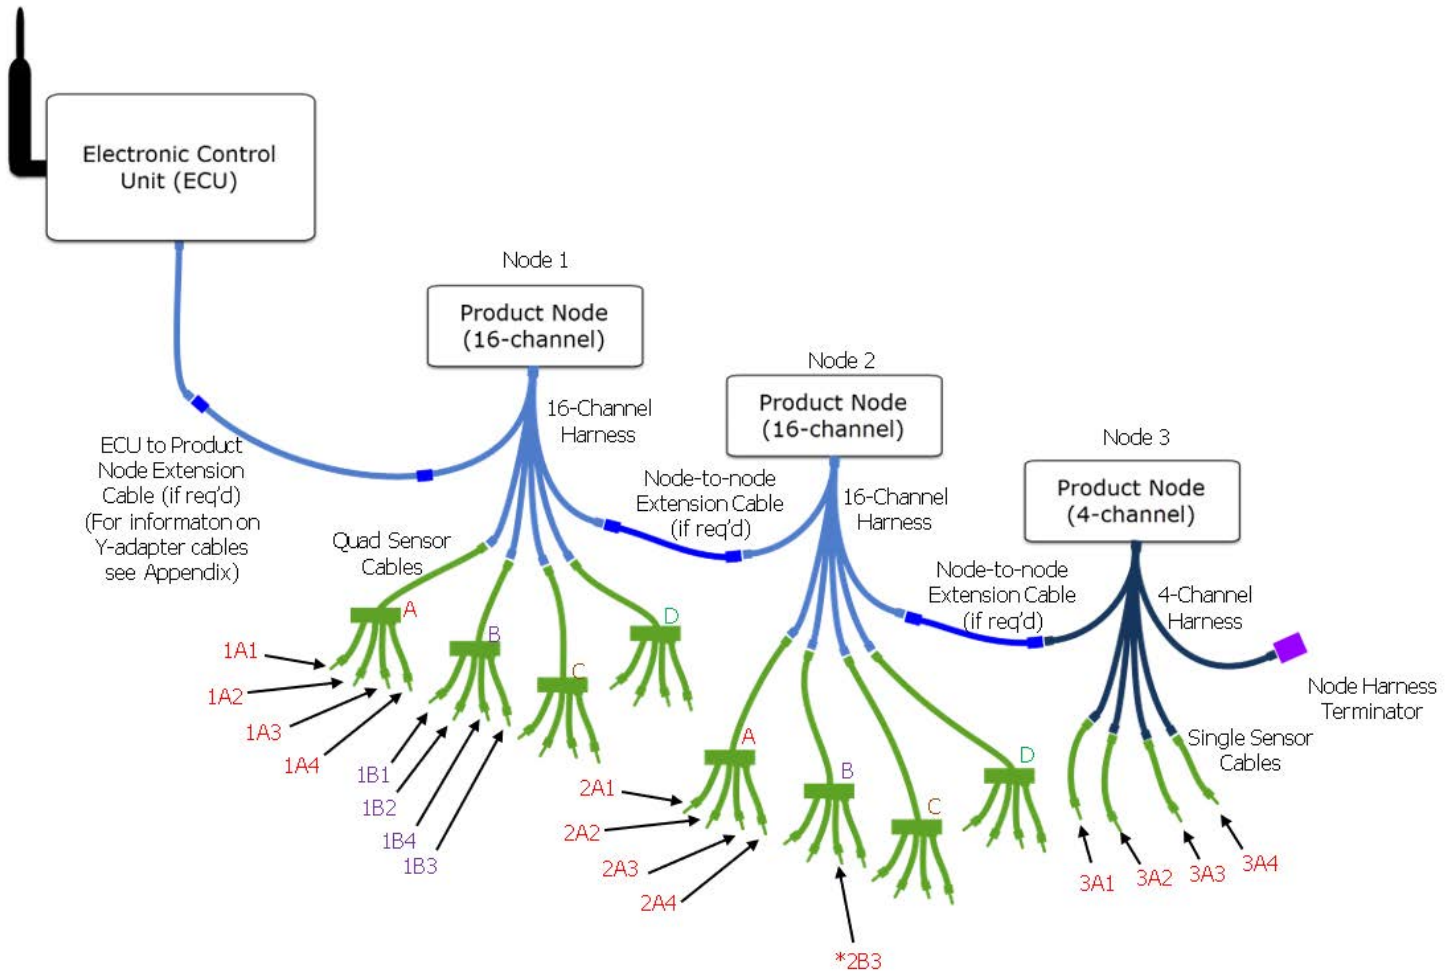

Figure 21. System Structure for EFM system using 3 nodes
- Example: Sensor 2B3 is Node 2, Cable B, Sensor 3 (See Figure 21)